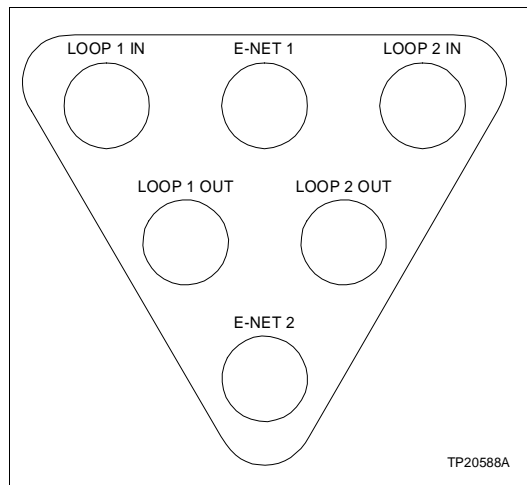

Figure PR29-2. Elbow Loop Connectors
- 7. Connect them to the proper elbow loop connectors as shown in Figure PR29-2.